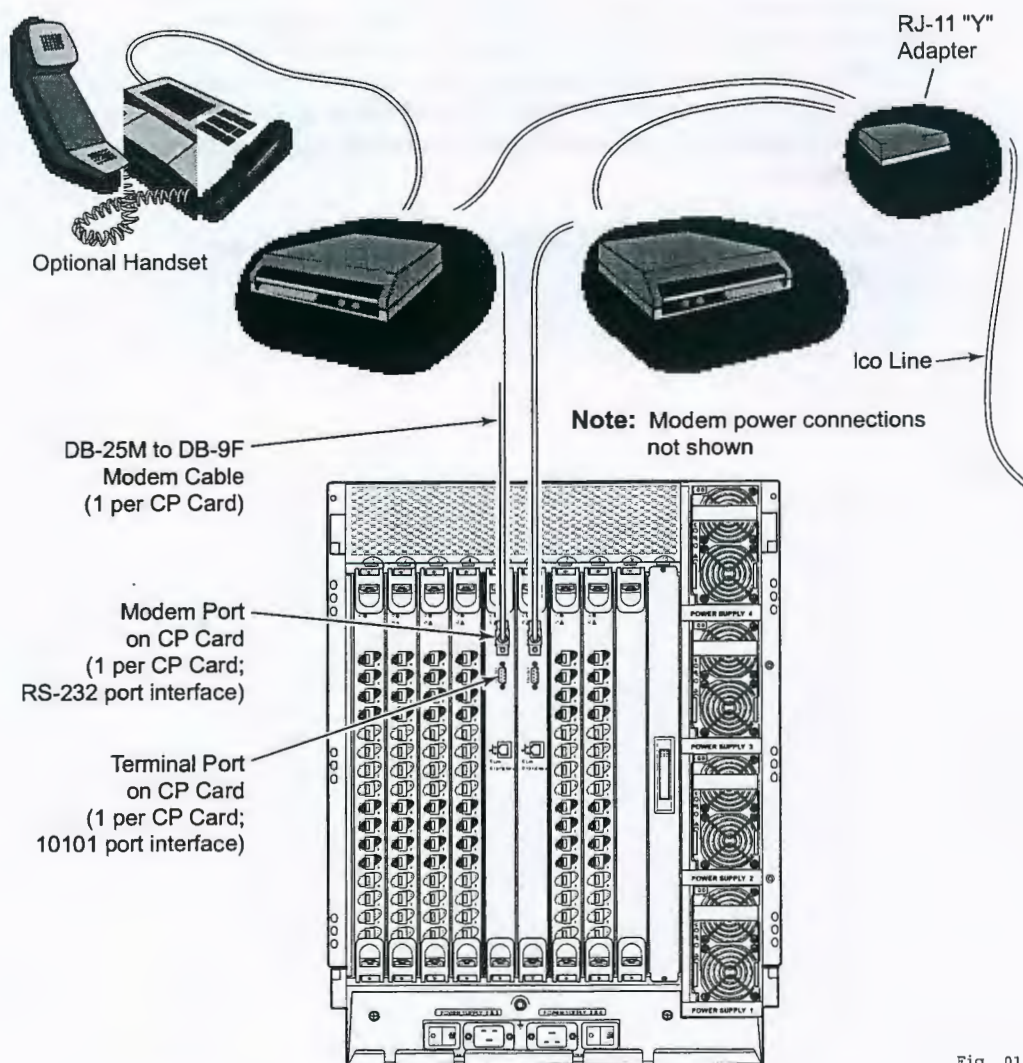

Figure D-1 ED-12000B With Two Modems Connected
High availability of the modem connection can be ensured by connecting a separate modem to each CP card, and then connecting both modems to a shared telephone line, as shown in Figure D-1. This ensures an available telephone connection to the active CP card even if a failover occurs; however, it is necessary to log back in after a failover. When both CP cards are connected to a shared telephone line, callers are automatically dialed into the active CP card, which answers on the first ring. If the active CP card cannot answer for any reason, the standby CP card answers on the seventh ring and allows login to proceed.
Figure D-1 illustrates the location of the modem serial ports and the supported set up.
3. Connect the modem cables to the modems and to the ED-12000B RS-232 modem ports, as shown in Figure D-1.
5. Optional: Connect a telephone handset to one of the "phone" connections on the modems, as shown in Figure D-1.
11. Remove the telco connector from the active CP card modem, leaving the standby CP card's telco line connected to the "Y" connector (see Figure D-1).